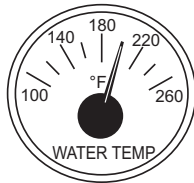

Figure 59. Coolant Temperature Gauge
10. The **coolant temperature gauge** (Figure 59) will indicate the coolant temperature. Under normal operating conditions the coolant temperature should be between 167°–194°F (75°–90°C).